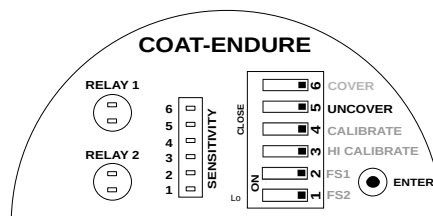

Figure 23: Saving Uncover Delay
- Uncovered Delay is entered, but not saved. To save and test the uncovered delay, set the UNCOVER switch back to OPEN position as shown in Figure 23.